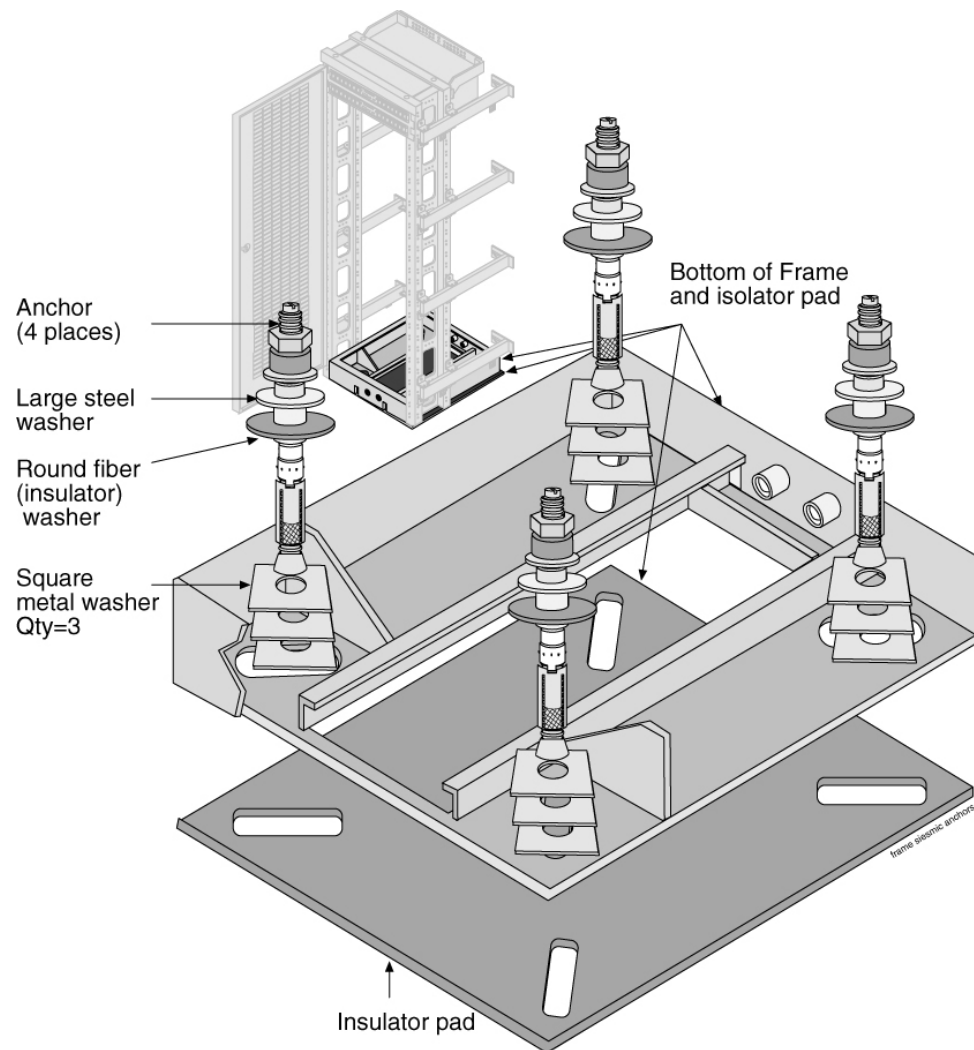

Figure 22: Anchor Installation of Heavy Duty Frame
5. Insert each anchor into an anchor hole through the three square washers, frame base, and isolation sheet (refer to Figure 22: Anchor Installation of Heavy Duty Frame).